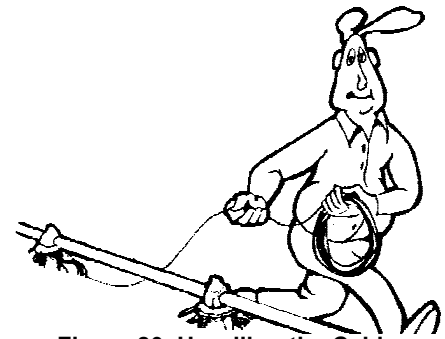

Figure 80. Unrolling the Cable
1. Unroll the bulk anti-roost cable. Note: If the cable is unrolled as shown in **Figure 80**, taking 5 loops of the coil with one hand, then changing hands to remove 5 loops as it is unrolled, it will lie flat during installation.